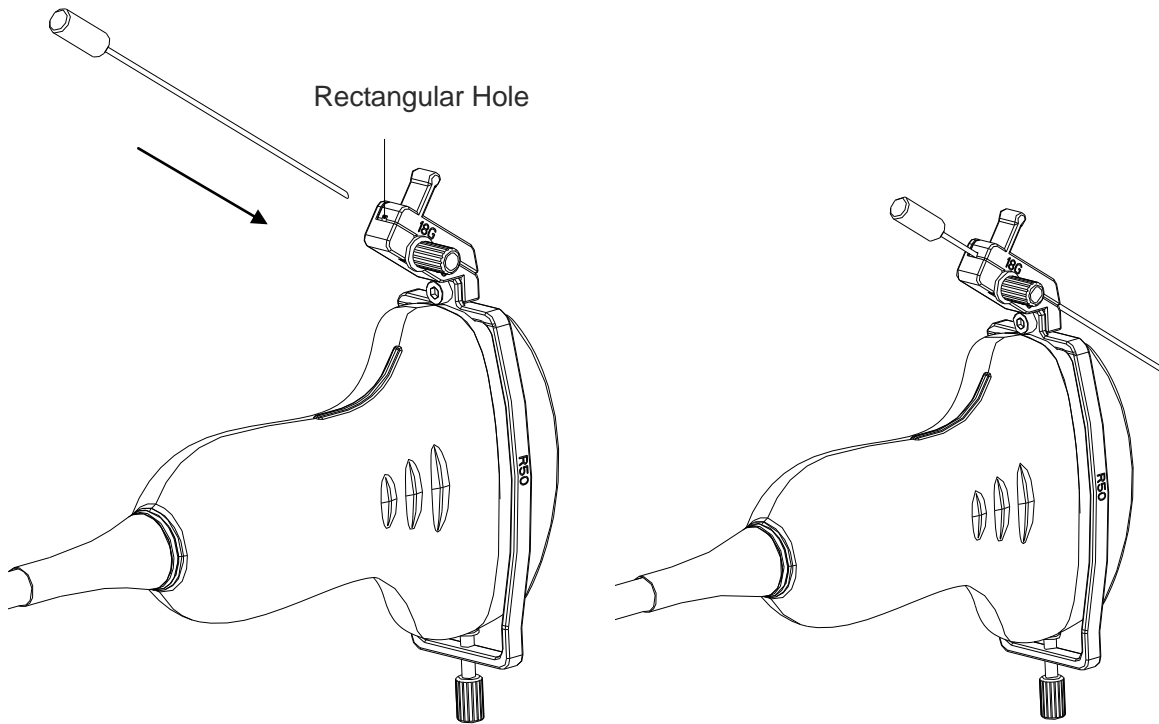

Figure 6-33 Inserting Needle into Rectangular Hole
Step 4: Insert the needle into the rectangular hole, as shown in *Figure 6-33*.